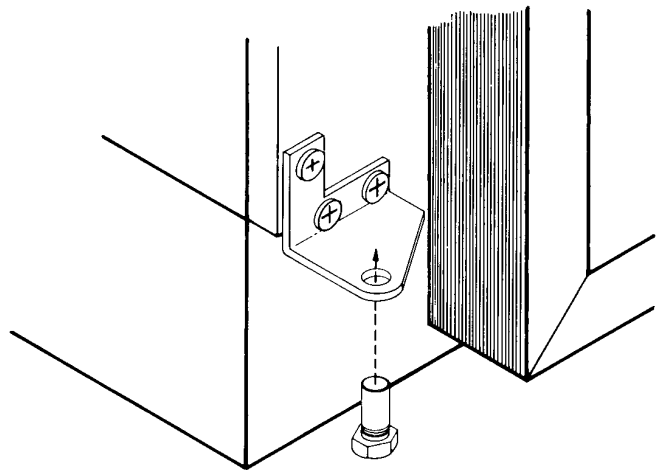

FIGURE 14
3. Unscrew and remove bottom hinge pin and fit it to opposite side (Fig. 14).